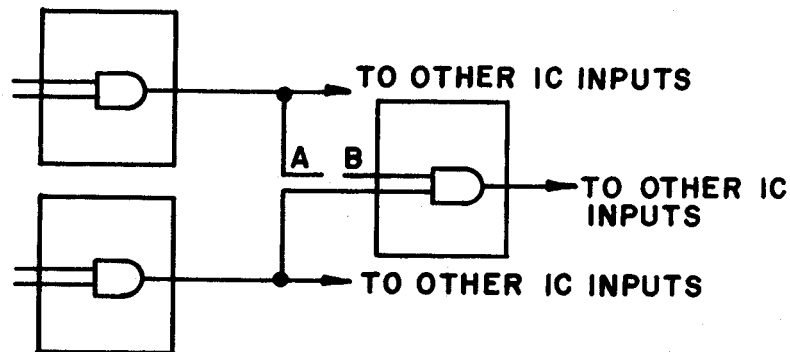

Fig 7-7
Figure 7-7. The Effect of an Open in the Circuit External to an IC. All inputs attached to the node at Point A will be driven properly. All inputs to the right of the open (Point B) will be left to float to a "bad level" and will therefore look like a static high state.
- 7-71. An open signal path in the circuit has a similar effect as an open output bond driving the node (Figure 7-7). All inputs to the right of the open will be allowed to float to a bad level and will thus appear as a static high level in circuit operation. Those inputs to the left of the open will be unaffected by the open and will thus respond as expected.